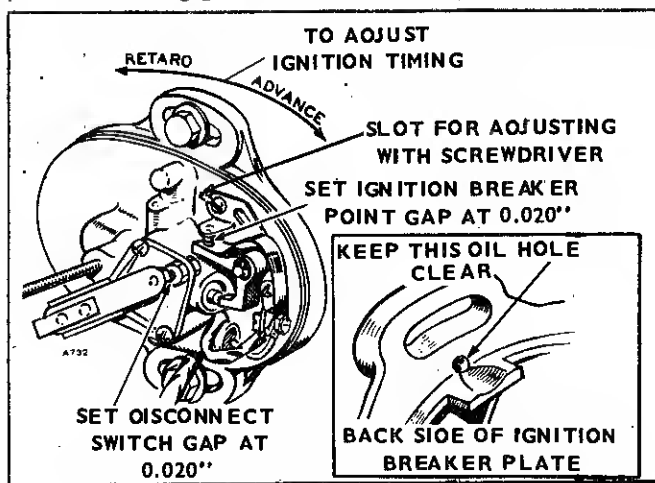

FIGURE 35. ADJUSTING IGNITION TIMING
Check gap with a feeler gauge for .020 in. Adjust the gap by loosening the adjustment screw and moving the stationary contact. Tighten the screw and check the gap (Fig. 35). Check the points for cleanliness and pitting. Clean the points with paper or gauze tape. If they are defective or excessively pitted, replace them.
3. If ignition timing isn't correct, align the 5° ATC mark and the timing pointer, then loosen the breaker plate capscrews and rotate the plate so the light goes out. Rotating clockwise advances timing, counterclockwise retards it (Fig. 35).
2. Run the engine at rated speed and check timing with the light. If timing is incorrect, loosen the breaker plate mounting screws and correct it by rotating the plate. Rotating clockwise advances timing, counterclockwise retards it. Tighten the plate and recheck the timing point. See Figure 35.